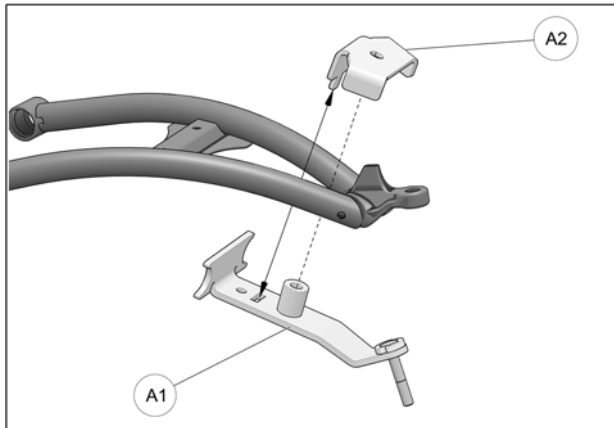

Fig. 12
- Position bottom part of anchor bracket (A1) assembly under front lower suspension arm, as shown in the figure below. Position bracket cover (A2) over suspension arm and align holes in cover and bottom part. Refer to Fig. 12